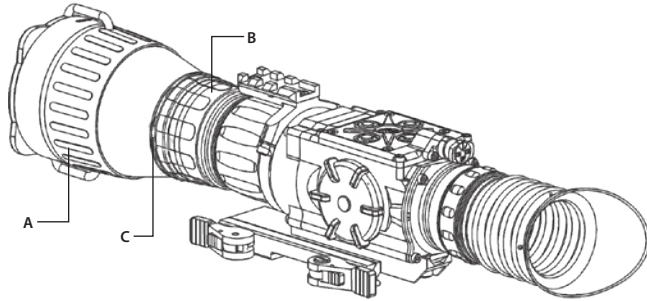
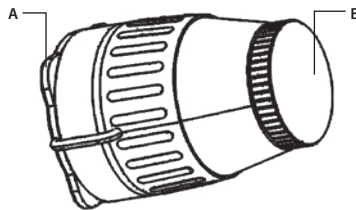

FIGURE 3-10. THE DRONE PRO WITH THE AFOCAL DOUBLER ATTACHED
FIGURE 3-11. AFOCAL DOUBLER
Attach the magnifying lens to the Drone PRO as follows (refer to Figure 3-10):
2. Unscrew the rear cap (B, Figure 3-11) and screw the Afocal Doubler (A, Figure 3-10) into the threading of the Drone PRO objective lens (B, Figure 3-10) housing. Be careful not to over-tighten the lens.
Before mounting the Afocal Doubler to the Drone PRO 5X, screw the adapter (C, Figure 3-10) onto the threaded portion of the lens housing and fix it with three M2×3 screws using a 0.9 hex key. The thread adapter switches between M48×1 and M51×1 thread sizes.
The caution notice **DO NOT REMOVE IN DAYLIGHT** on the front lens cap (A, Figure 3-11) of this universal magnifying lens is **not applicable** when using it on the Drone PRO.
After removing the Afocal Doubler from the Drone PRO, replace the protective cap (B, Figure 3-11).